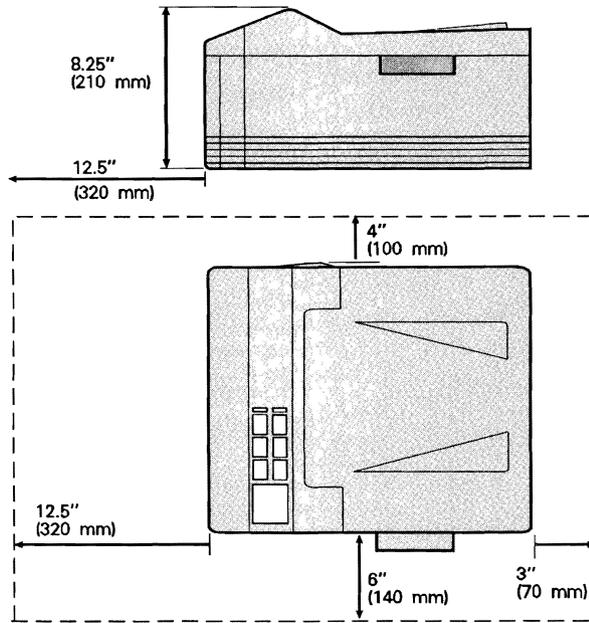

Figure C-1. HP LaserJet IIIP Printer Space Requirements
- Install your printer with sufficient clearance from walls or other objects. There must be enough space around the printer for proper access and operation of the printer (see figure C-1).